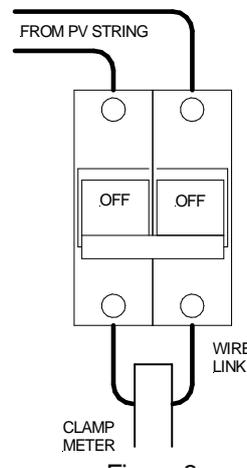

Figure 4
1. Where short circuit currents are required undertake the following steps to measure the short circuit current safely as shown in Figure 4